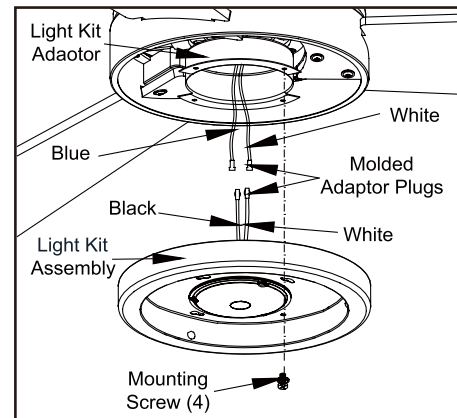

Figure 16
- Loosen but do not remove three of four mounting screws from the fan motor assembly; Remove one mounting screw. (Figure 16)
- Push the light kit fitter assembly up to the fan motor assembly so that the three loosened screw heads fit into the keyhole slots. Turn the light kit fitter assembly clockwise, tightened the screws. Re-install the screw that was removed in step 1 and tighten firmly. (Figure 16)